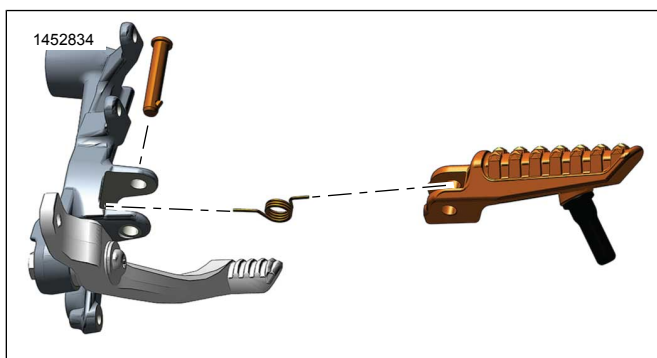
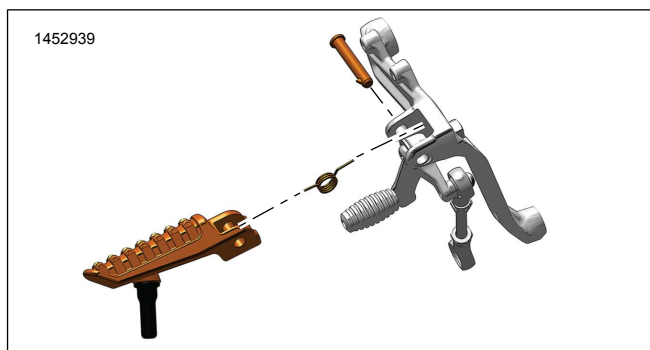

Figure 3. Footpeg - Rider - Right
Figure 4. Footpeg - Rider - Left
- a. Cover footpeg assembly return spring (B) area with a shop towel.
- b. See Figure 3 or Figure 4. Pulling footpeg assembly outward, remove assembly from bracket.